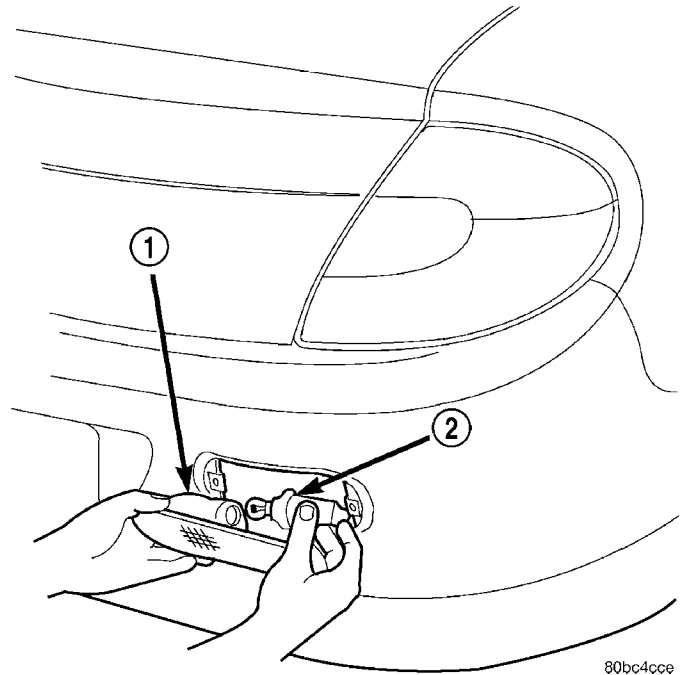

Fig. 24 REAR FOG LAMP SOCKET
(1) Remove the fog lamp unit from the rear bumper fascia (Refer to 8 - ELECTRICAL/LAMPS/LIGHTING - EXTERIOR/FOG LAMP - REMOVAL).
(2) Pull bulb out of socket and replace bulb (Fig. 24).
(1) Push in bulb (Fig. 24).
(2) Install the fog lamp unit into the rear bumper fascia (Refer to 8 - ELECTRICAL/LAMPS/LIGHTING - EXTERIOR/FOG LAMP - INSTALLATION).